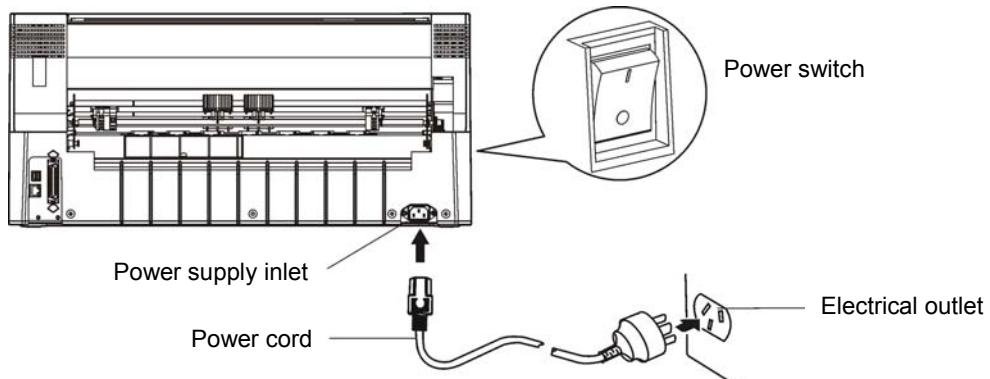

Figure 2-19 Connect the power cord to the printer
1. As shown in Figure 2-19. Make sure the printer is turned off. (The pressed down side of the power switch with "O" marks denotes the printer is off.)